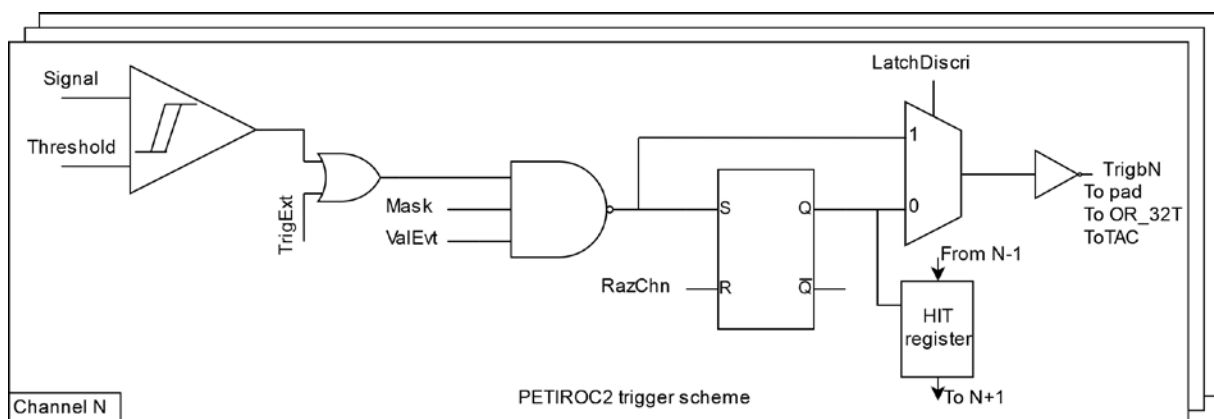

Figure 6 - Time triggering scheme in Petiroc 2A.
The triggering scheme is depicted in Figure 6.
- val_evt – (pin 116/118 or T19/T22) → This signal will mask all trigger output when set a low level (LVDS input). ValEvt on Figure 6.
- trig_ext – (pin 87 or AC 16) → This signal will override all trigger outputs when no trigger is fired internally. TrigExt on Figure 6.
- raz_chn – (pin 109/111 or W22/T19) → This signal will takeover the internal "Razchn" signal shown in Figure 6 : Will reset the trigger outputs in "latch" mode or pull down the trigger outputs when in non-latch mode. Can be used only in conjunction with Slow Control #620='0'.
- mask_discri_time_chx (bits #328 - #359) – mask the trigger output individually for each channel. '1' value will mask the trigger. Mask on Figure 6.